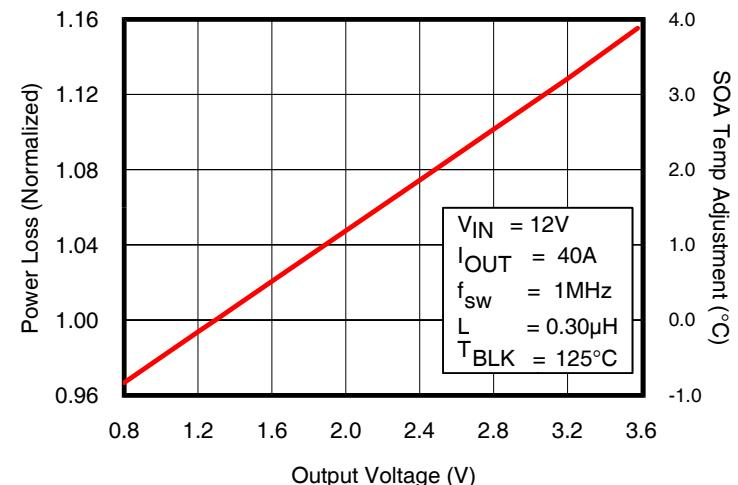

Fig. 4: Normalized Power Loss vs.  $V_{OUT}$
- (Fig. 4) Normalized power loss for output voltage  $\approx 1.14$
- (Fig. 4) SOA Temperature Adjustment for output voltage  $\approx 3.3^{\circ}\text{C}$